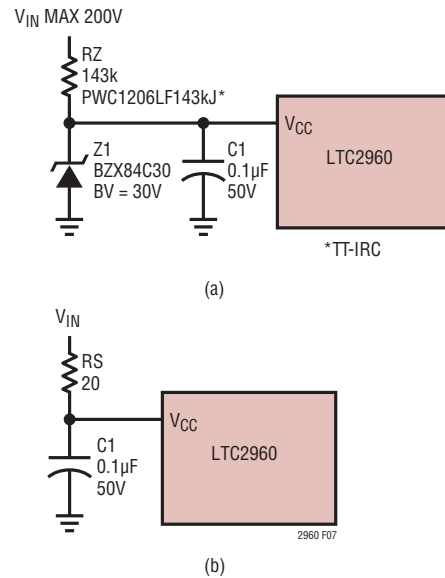

Figure 7. Operation with High Voltage Transients and Hot Swapping
The circuit in Figure 7(a) allows the LTC2960 to withstand high voltage transients. The magnitude of the voltage transients that can be absorbed is set by the voltage rating of RZ. A TT-IRC pulse-withstanding surface mount 1206 resistor with a nominal voltage rating of 200V is used. The external 30V Zener diode (Z1) and the 143kΩ current limiting resistor (RZ) protect the VIN supply pin of the LTC2960. Note that there is a speed penalty which is the time constant determined by RZ and C1, 14.3ms in this example. If VIN is below 30V, there is a voltage drop across RZ that is dependent on the quiescent current of the LTC2960 which is nominally less than 150mV but can be as high as 290mV if  $\overline{\text{MR}}$  is pulled low. The maximum voltage drop is determined by the maximum specified ICC and  $\overline{\text{MR}}$  pull-up currents. For conditions where the Zener conducts current, it can be biased in the microamp range owing to the low quiescent current of the LTC2960. For a supply voltage of 150V, the Zener is biased <1mA. When input pins are used to sense VIN, the input pins ADJ/IN+/IN- absolute maximum rating of 3.5V must not be exceeded. VIN can be a maximum of 8.75x the lowest programmed threshold to satisfy this condition. For a maximum VIN of 150V, the lowest programmable threshold is >17V.
One effective means to eliminate ringing is to include a 10–100Ω resistance in series with the supply input before the  $V_{CC}$  capacitor shown in Figure 7(b). This provides damping for the resonant circuit but imposes a time constant to  $V_{CC}$ . In Figure 7(b), the time constant of  $R_S$  and  $C_1$  is 2μs.